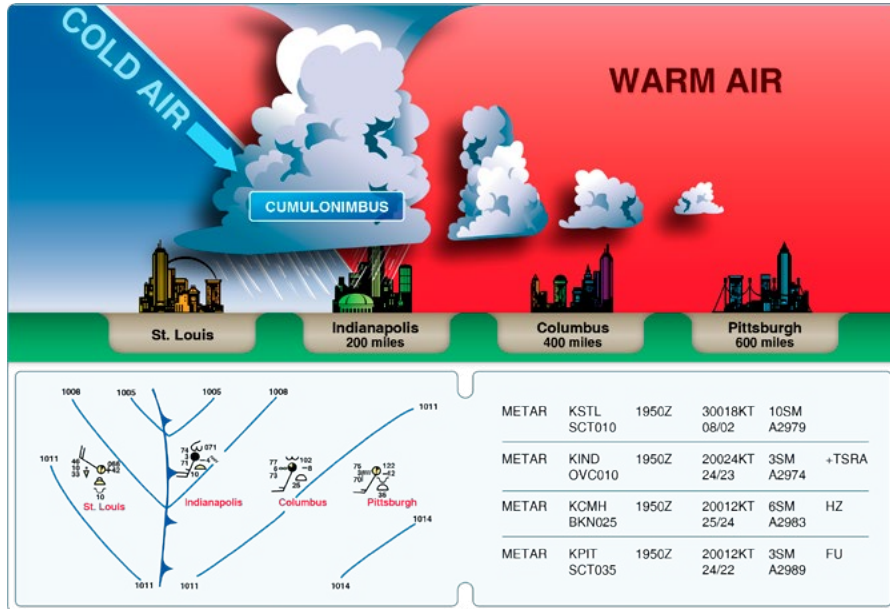

Figure 10-8. – Cold front: cross-section, as shown on weather map, and as reported on a METAR.
- Cold front weather (See Figure 10-8)